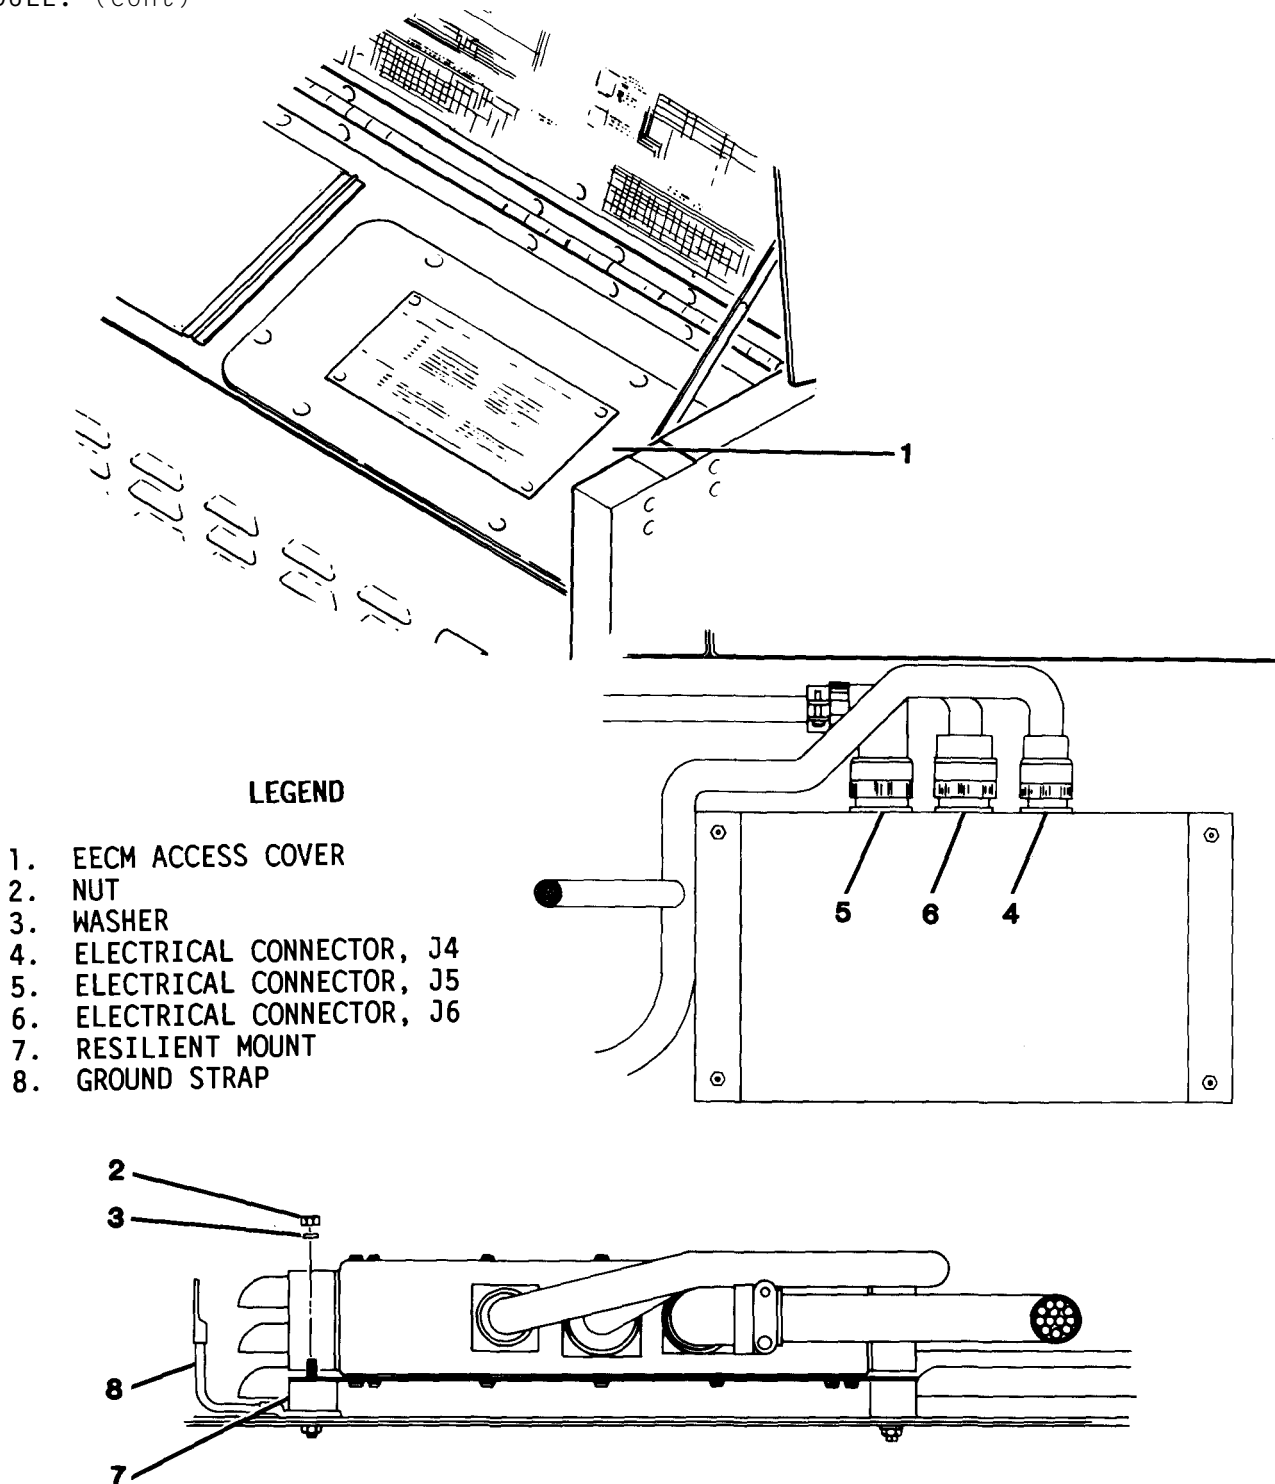

Figure 4-39. EECM Replacement
(1) Disconnect battery cable plug connector from battery.
(2) Open control panel access door.
(3) Loosen turnlock fasteners and remove EECM access cover (1, figure 4-39).
(4) Remove nuts (2) and washers (3).
(5) Lift EECM off resilient mounts (7) and out of control fender.
(6) Tag and disconnect electrical connectors J4 (4), J5 (5), and J6 (6).
(7) Inspect resilient mounts (7) and ground strap (8). Replace if damaged.